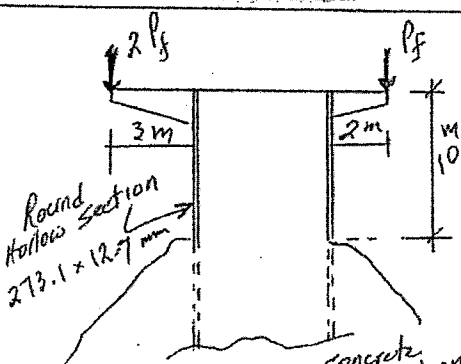

FIGURE A3
- A3. A sign standard post in Figure A3 is made of steel round hollow section of G40.21M 350W Class H, 273.1 mm OD and thickness of 12.7 mm. The post is a free standing column at the top and rigidly fixed to a concrete foundation. The post is subjected to two cantilevered loads, diametrically opposite to each other. Calculate the maximum factored load,  $P_r$ , that can be carried.